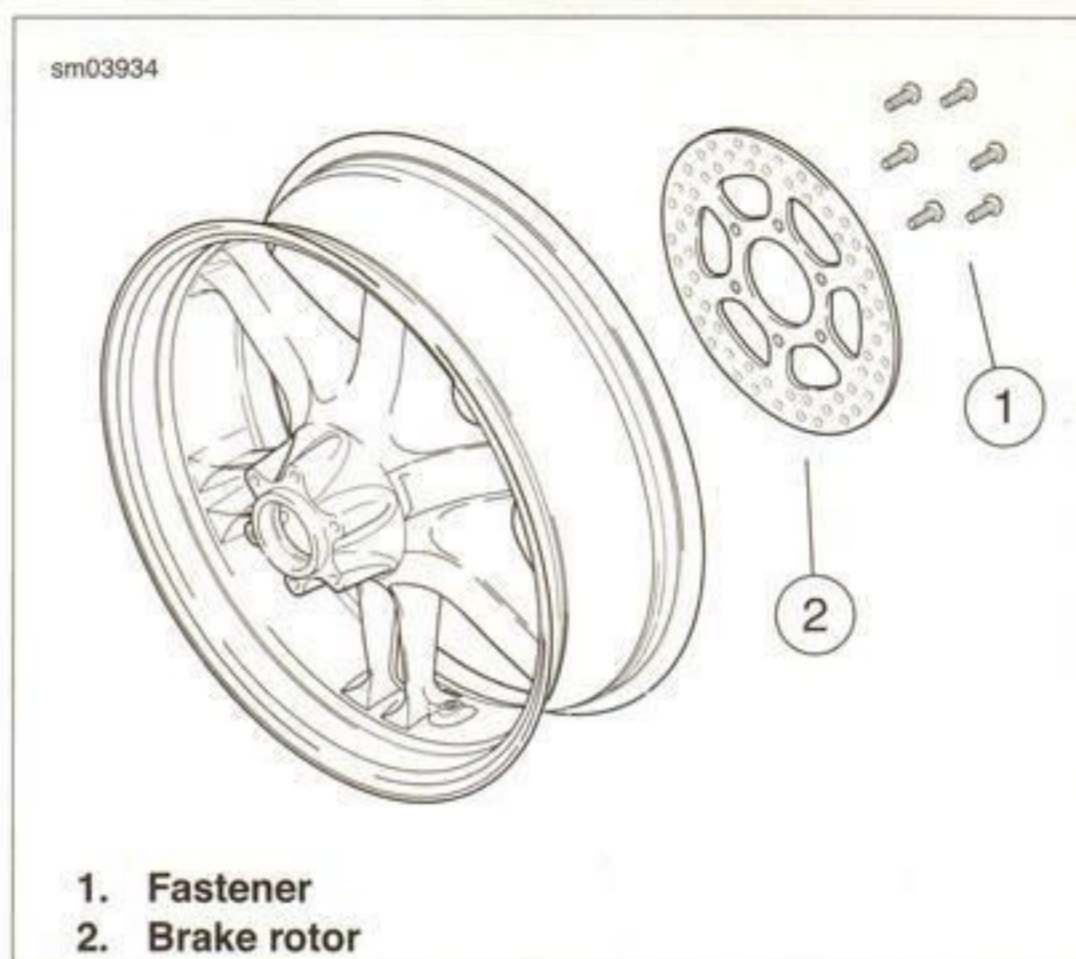

Figure 2-35. Rear Brake Rotor and Wheel
1. See Figure 2-35. To remove brake rotor (2), remove and discard rotor fasteners (1).